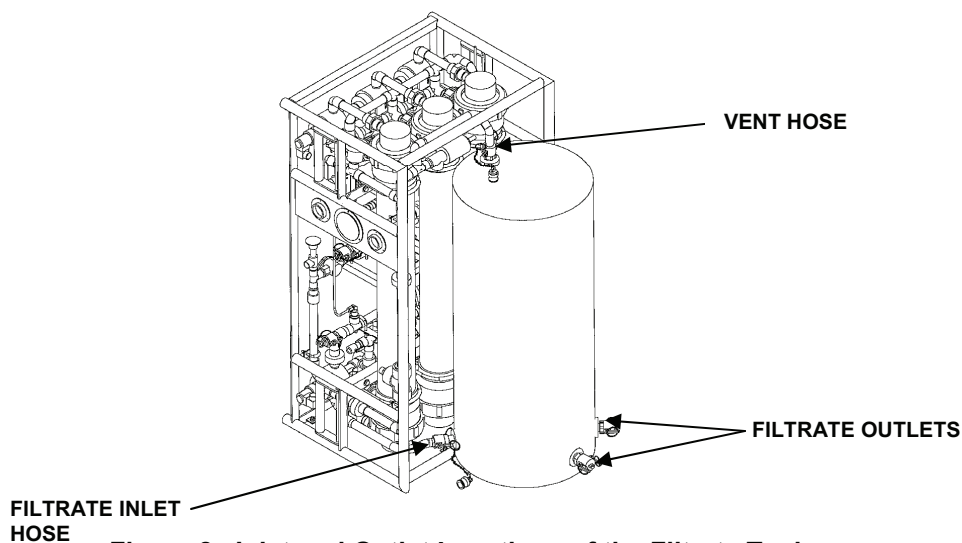

Figure 8. Inlet and Outlet Locations of the Filtrate Tank.
6. Disconnect the filtrate tank inlet hose at the filtrate bag on the UF skid to bypass the filtrate bag and also to drain the bag (filtrate from this hose will be used to feed the RO module via the cleaning adapter during preservation). Also, disconnect the vent hose from filtrate bag and cap it. See Figure 8.